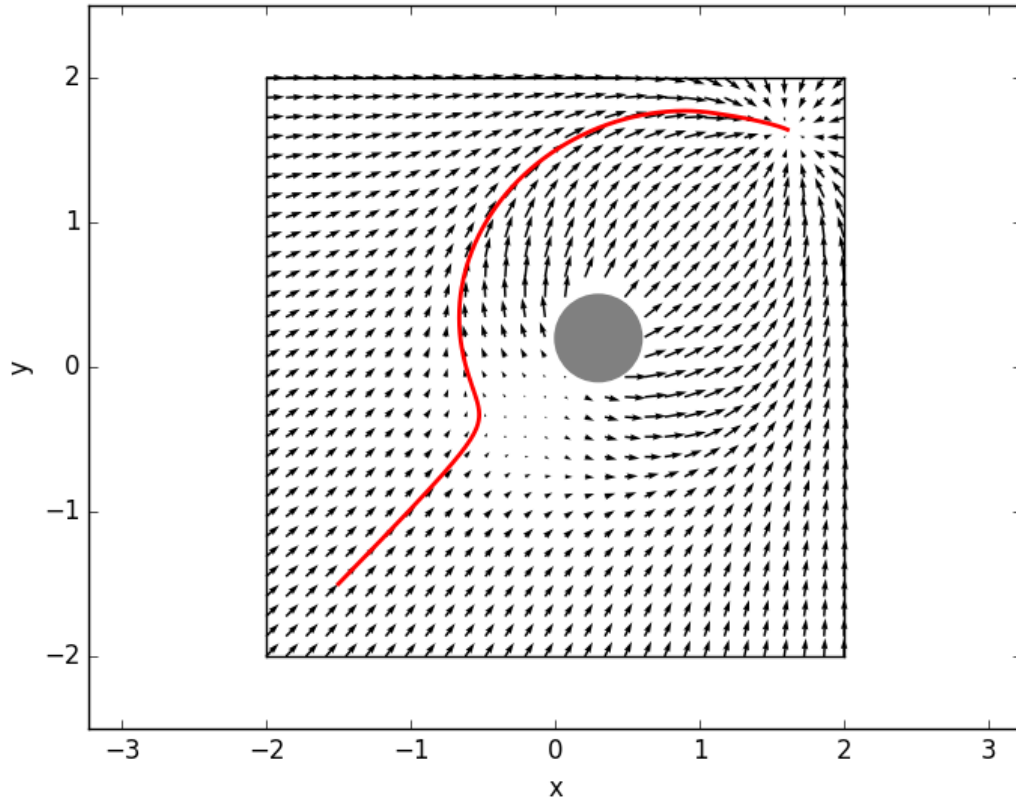

Figure 3: Potential field with both the goals and the obstacle
- (c) Figure 3 shows how combining the two vector fields results in a new field which allows the robot to take a path to the goal while avoiding the obstacle. Since the vectors from the obstacle have a repulsive effect, and the vectors towards the goal have an attractive effect, they combine these effects to create vectors which go towards the goal but also away from the obstacle.